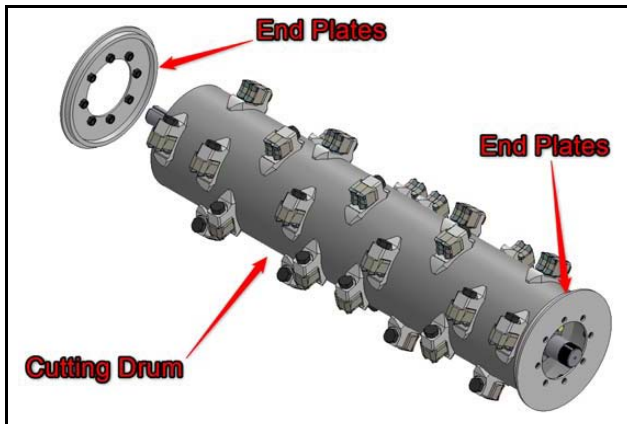

Figure 24
2. Slip the cutting drum out with the end plates on [Figure 24].